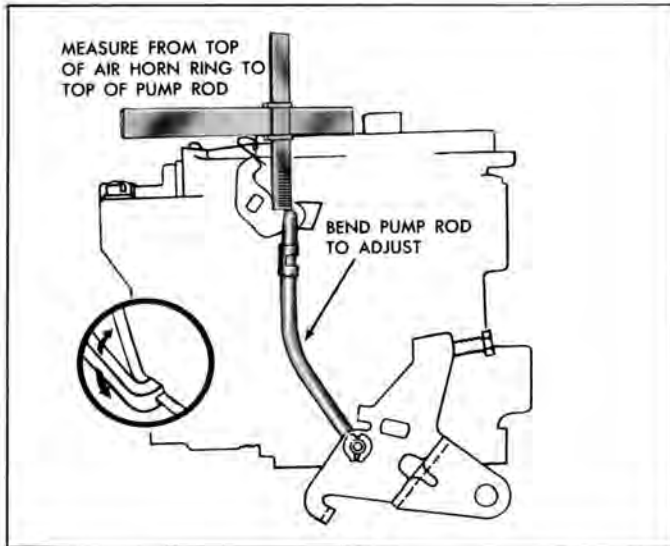

Fig. 11
2. With throttle valves closed, check distance from top of air horn ring to the top of the pump rod, see Fig. 11. Dimension should be as follows:
3. If necessary to adjust, bend lower section of pump rod to obtain correct dimension as shown in Fig. 11.